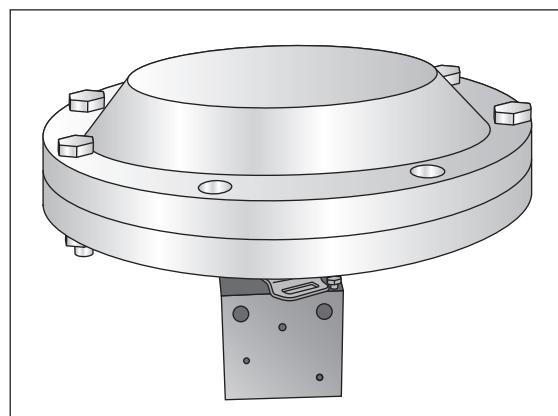

Figure 2. Isolation Valve
5. Remove the isolation valve from the RUSKA 7615. See Figure 2.